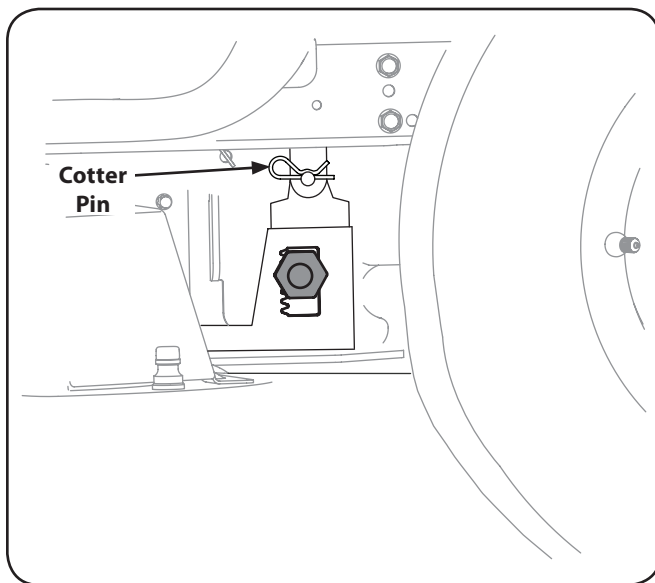

Figure 7-5
- Pull the cotter pins out of the four deck lift adjustment brackets. See Fig. 7-5.